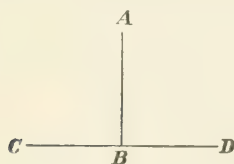

FIG. 8.
26. When these adjacent angles, ABC and ABD , are equal, as in Fig. 8, they are called **right angles**.